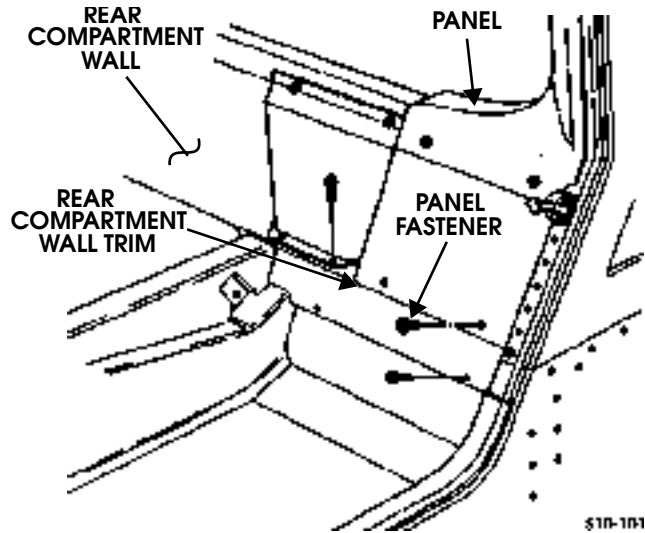

Figure 10-51: Rear Compartment Trim Removal
4. Remove panel fasteners, screw/washer assemblies, and rear wall trim from rear compartment wall (Figure 10-51).
6. Secure rear inner kick panels with panel fasteners (Figure 10-51).